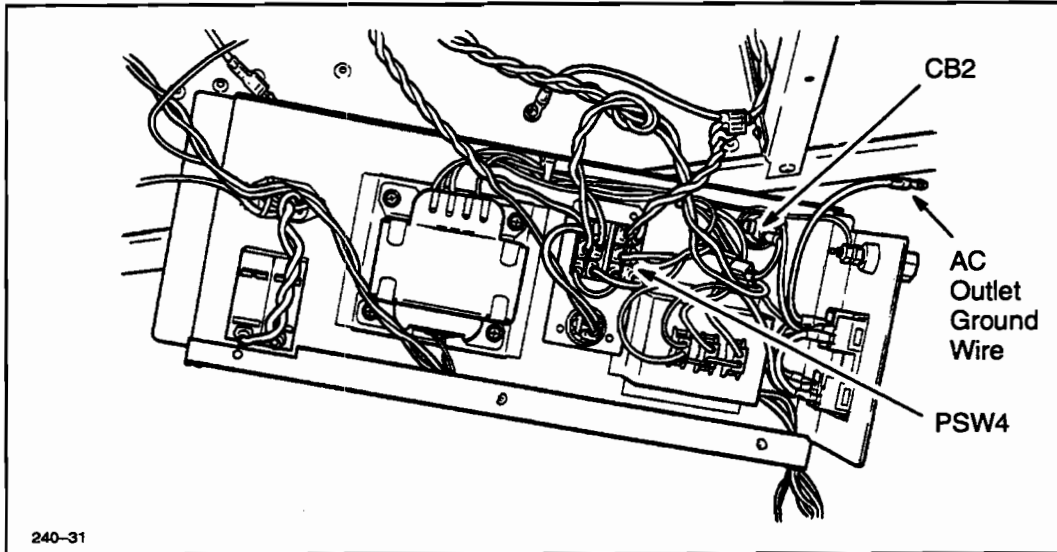

Figure 6-32. AC Outlet Removal
4. Disconnect the outlet wiring from CB2 and PSW4. See Figure 6-32.